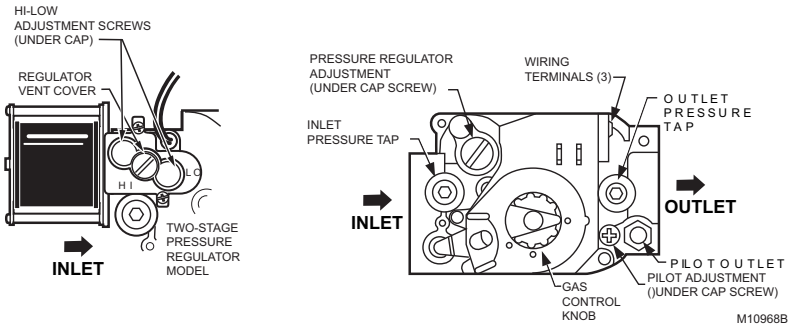
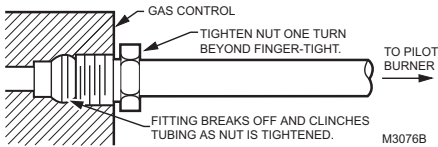

Fig. 6. Top view of gas control.
Fig. 7. Always use new compression fitting.
3. Unscrew the brass compression fitting from the pilot outlet (Fig. 6). Slip the fitting over the tubing and slide out of the way. See Fig. 7.
1. Remove pilot adjustment cover screw. See Fig. 6.
3. With main burner operating, check the control flow rate using the meter clocking method or check pressure using a manometer connected to the outlet pressure tap on the control. See Fig. 6.
- b. Using a screwdriver, turn the inner adjustment screw (Fig. 6) clockwise ↻ to increase or counterclockwise ↻ to decrease the gas pressure to the burner.
3. With main burner operating, check the gas control flow rate using the meter clocking method or check pressure using a manometer connected to the outlet pressure tap on the gas control. See Fig. 6.
4. With main burner operating, check the gas control flow rate using the meter clocking method or check pressure using a manometer connected to the outlet pressure tap on the gas control. See Fig. 6.
- a. Remove the pressure regulator adjustment cap (Fig. 6).